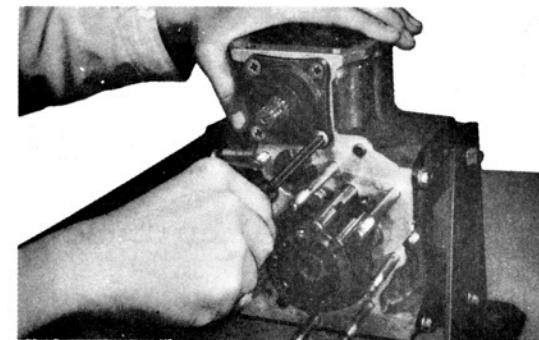

Fig. 3-7.
10) Take out the four (4) cross-head screws as shown in the Fig. 3-7 and remove the input shaft bearing retainer together with the oil seal.